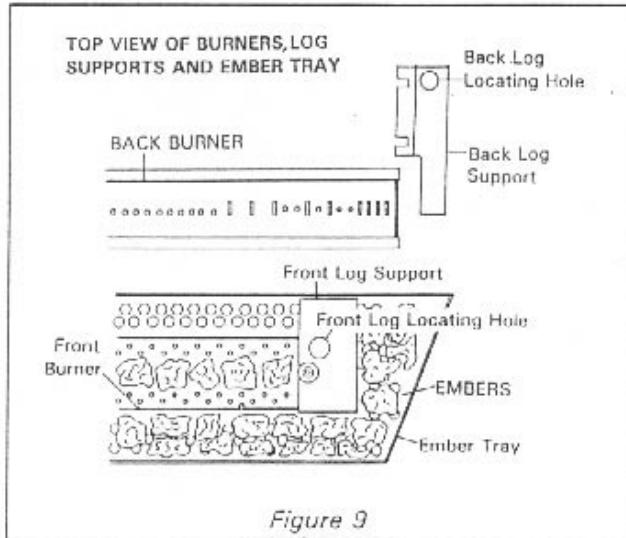

Figure 9
Carefully remove logs from box. Check to ensure there is no damage to any of the four (4) logs. It is very important to install these logs in their proper positions to insure safe optimum operating conditions. (SEE LOG SET Figure 9)
5. Place the two cross logs on the positioning pegs according to the diagram shown above. (Figure 9)